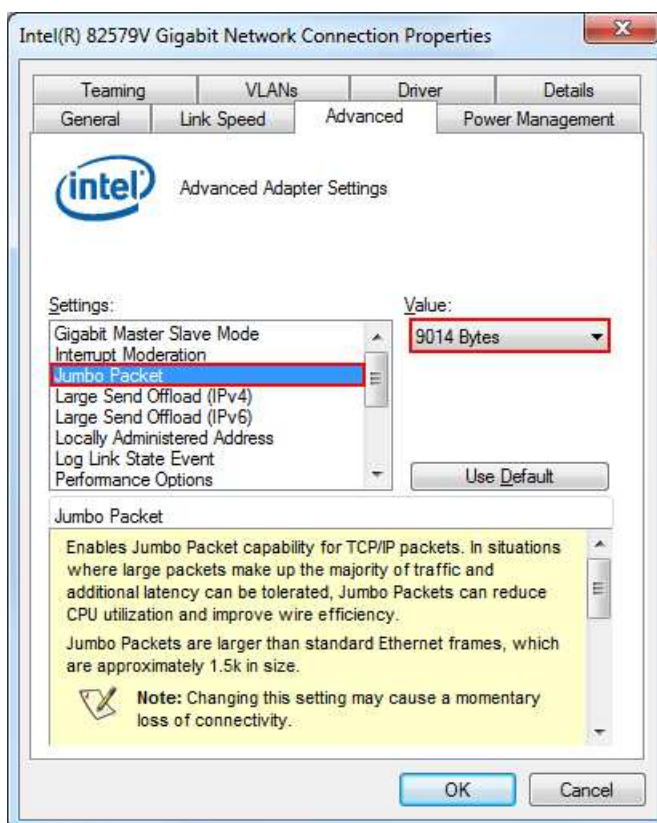

Figure 3-3 Jumbo Frame Setting
- On Advance tab, Jumbo Packet = 9014 Bytes to enable jumbo frame, as shown in Figure 3-3.